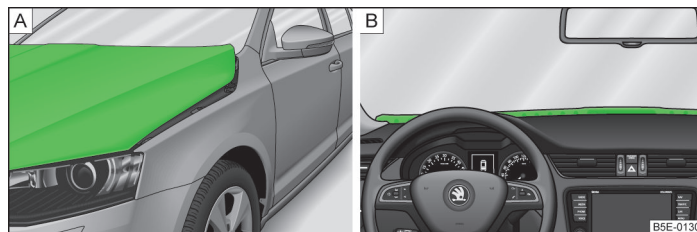

Fig. 165 Raised bonnet
- The bonnet is raised » Fig. 165 - [A].
- Adjust the height of the seat so that the raised bonnet does not block your view ahead » Fig. 165 - [B]. Stop driving if the view ahead remains impaired even at the highest seat position!